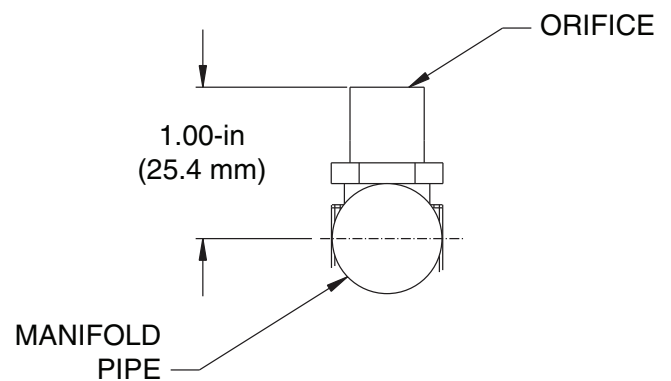

Fig. 52 — Orifice Projection
Refer to Fig. 52 for maximum projection dimension for orifice face to manifold tube.
10. Turn off unit, remove pressure manometer and replace the 1/8-in. pipe fitting on the gas manifold. (See Fig. 52.)
Ensure each replacement orifice is tight as its threads into the manifold pipe and the orifice projection does not exceed maximum value. See Fig. 52.